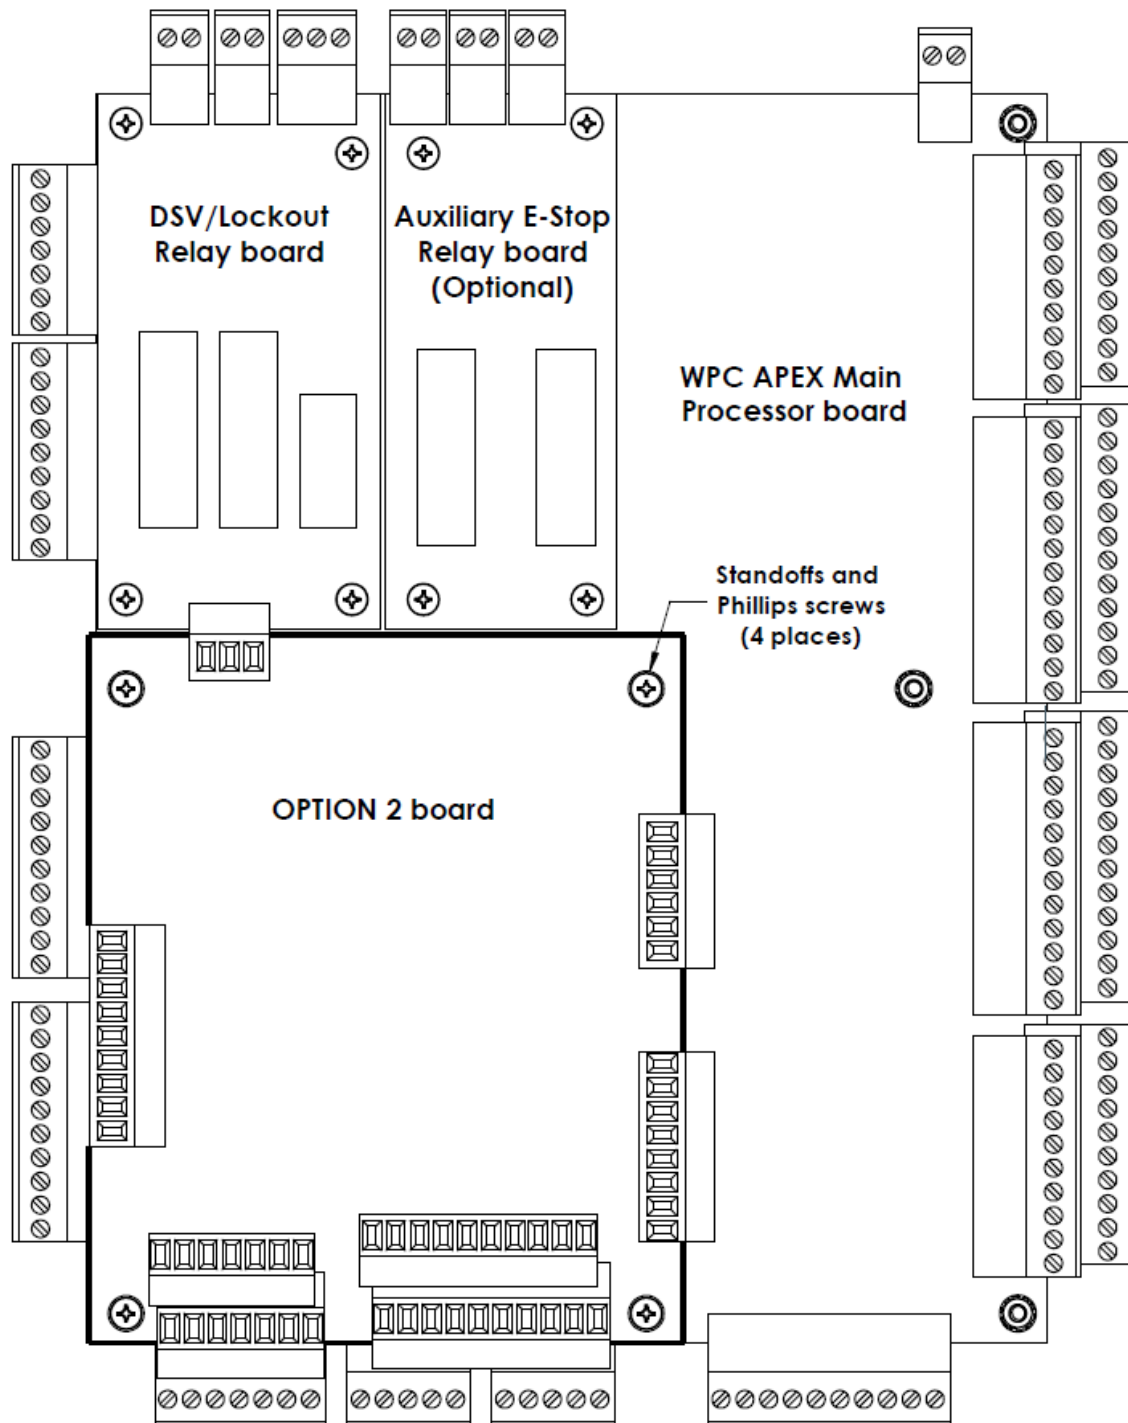

Figure 2-2. Option 2 Board Installed on WPC APEX Main Processor Board
2. Making sure that you are grounded, open the enclosure and find the Option 2 firmware chip (U603) on the Option 2 board (see Figure 2-2, page 28). Note the direction in which the notch on the chip faces. A newer board may not have a firmware chip inserted; the standard code may be stored directly in the board's memory.
5. Plug the chip into the firmware socket, inserting the upper row of pins first, then aligning the bottom row of pins over the socket and pushing them in. Make sure that the notch in the chip faces in the same direction as the notch in the socket (see Figure 2-2, page 28) and that all of the pins are plugged into the socket.
Wiring connections for WPC 2000 Option 2 user inputs are made on terminal blocks TB601 and TB602 on the Option 2 board (see Figure 2-2 next page). Pin numbers are shown in Table 2-2, page 29, and Figure 1 at the end of the manual. See *Expanded User Inputs*, page 15, for a description of Option 2 user inputs.